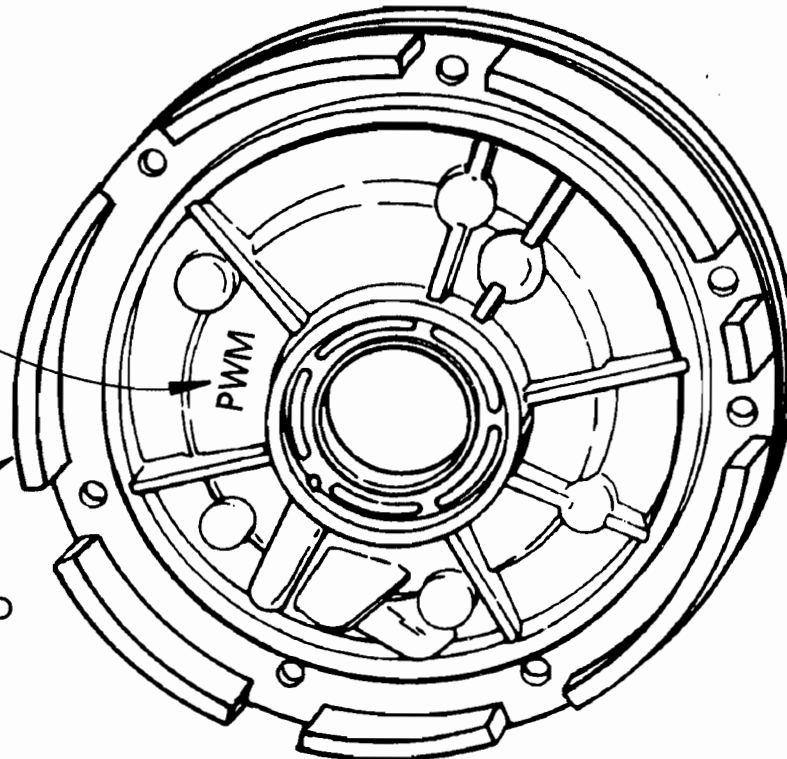

Figure 17
- (4) **OIL PUMP BODY** - A machined ring has been added to the front of the pump body to accommodate and center the bolt-on bellhousing, as shown in Figure 17.